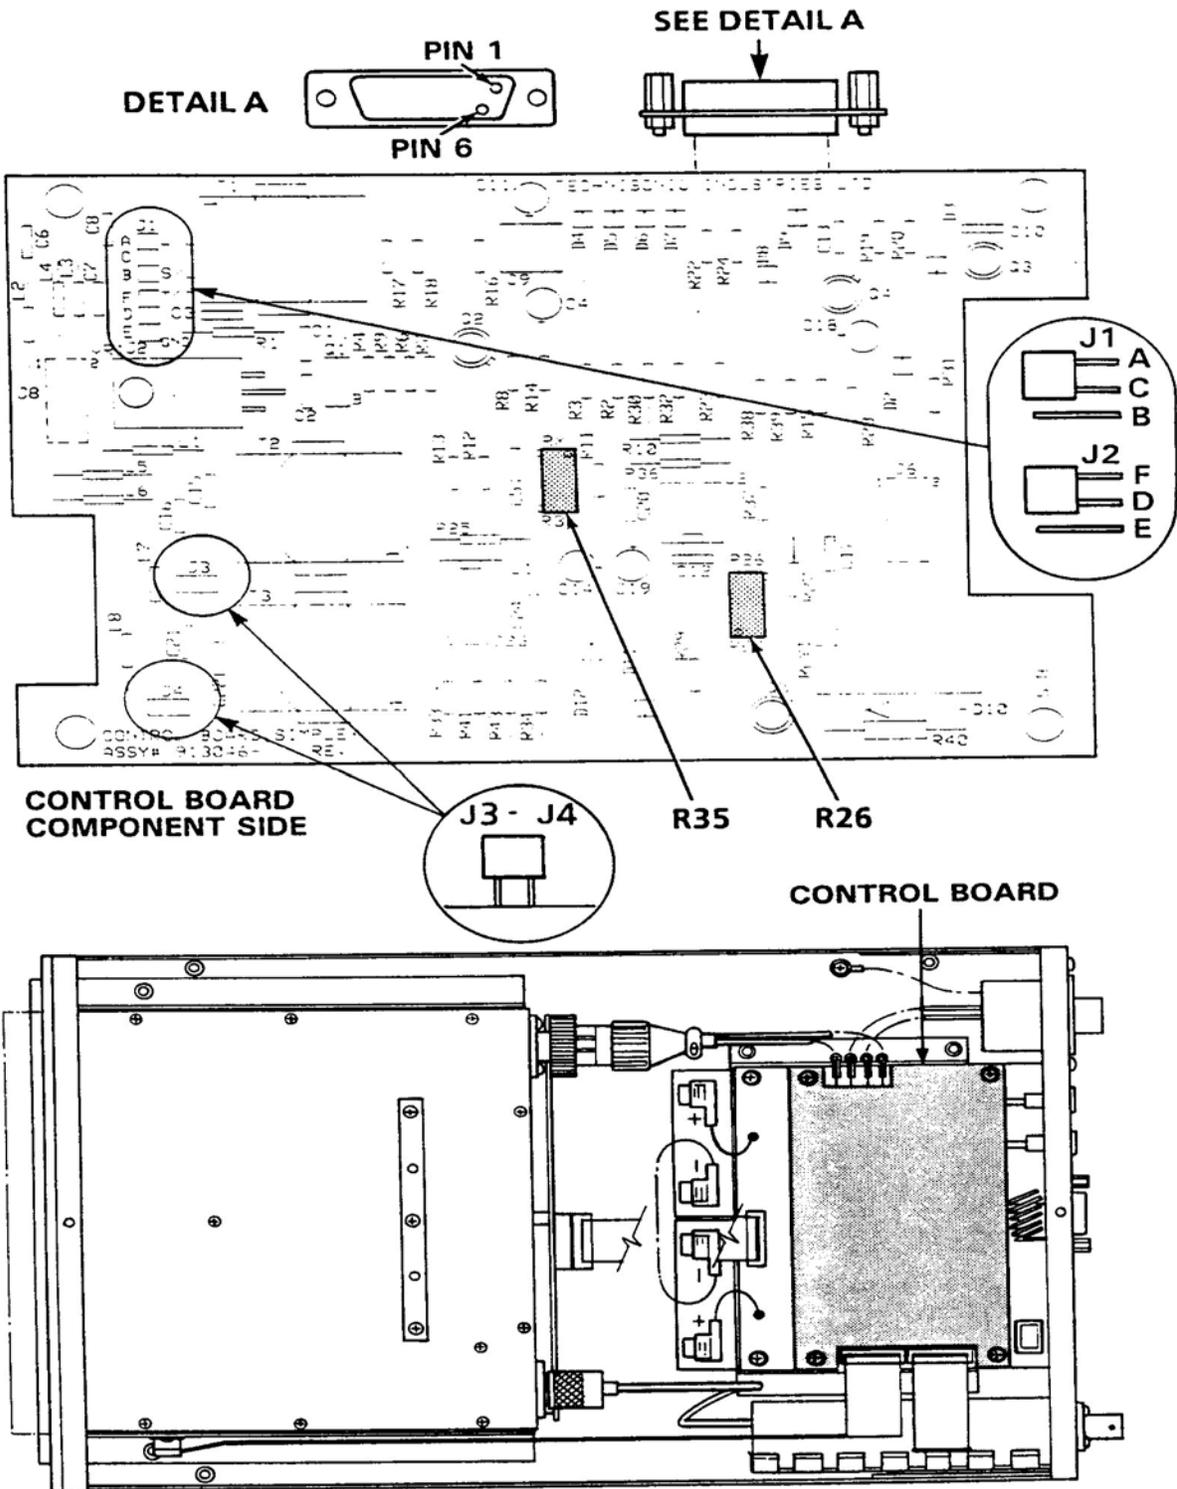

Figure 2.3 Remote Operation - Jumper Locations
- (2) Position Jumpers on Control board as indicated in Table 2.2. Refer to Figure 2.3 for jumper locations.